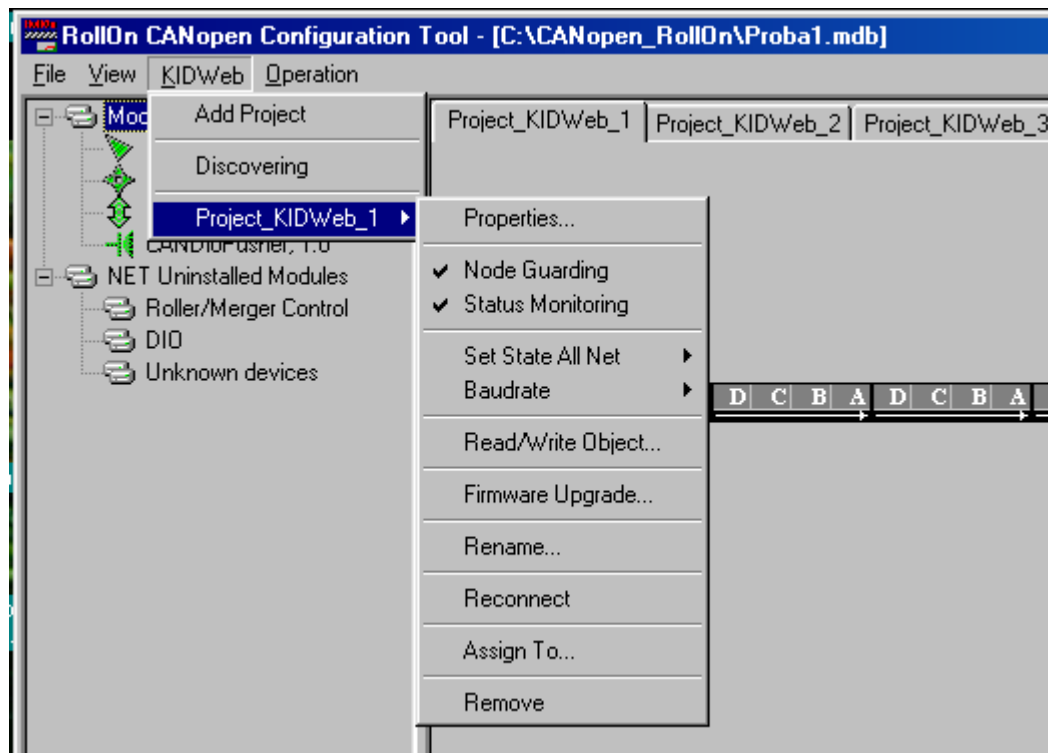

Fig. 4.31
- Approach **Project_KIDWeb_1** item to open the selection drop-down list shown in Fig. 4.31.